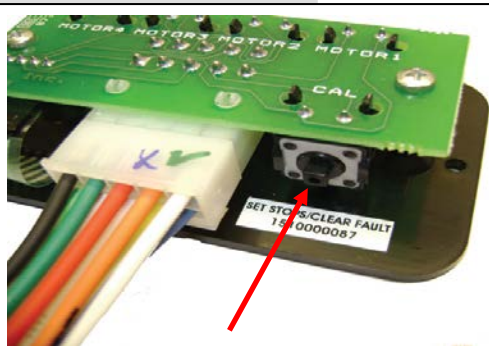
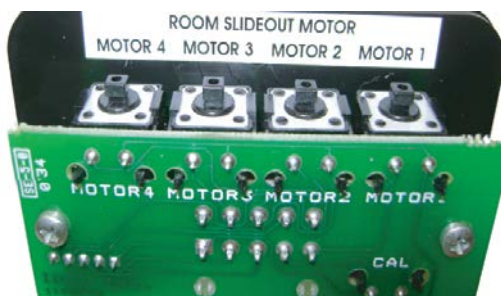
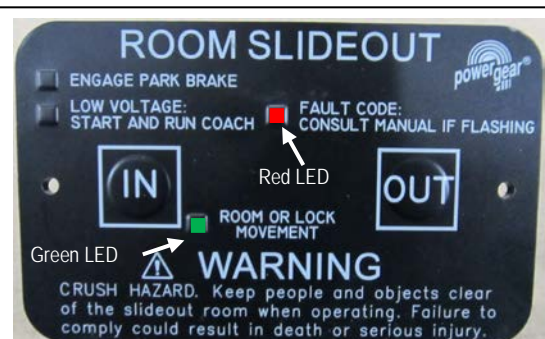

Figure 10 Set Stops/Clear Fault Button
Figure 11 Room Slideout Motor Buttons
Figure 12 Touchpad
2. Determine location to mount **TOUCHPAD** (FIGURE 12, page 4). Location needs to be in view of slideout room and have minimum depth of 1" inside the wall. Cut a 3 1/8" wide by 2" high rectangular opening in the wall paneling to mount the touchpad.
3. Route and attach the touchpad harness (FIGURE 19, page 9) to where the touchpad will be mounted. After system has been programmed (see **PROGRAM MODE**, page 3), mount **TOUCHPAD** (FIGURE 12, page 4) with two (2) screws.
1. If the **TOUCHPAD (FIGURE 12)** is mounted to the wall, remove it to access the buttons (**FIGURES 10 & 11**) on the back side.
2. Press and hold the **SET STOPS/CLEAR FAULT (FIGURE 10)** button on the back of the wall touchpad for five (5) seconds. The **FAULT CODE** and **ROOM MOVEMENT LED's** will light while the button is held down.
- After five (5) seconds, the **GREEN LED** will begin flashing and the **RED LED** will remain lit (**FIGURE 12**).
- a. Press and hold the slideout room motor buttons (**MOTOR 1 and MOTOR 2, FIGURE 11**) on the back of the wall **TOUCHPAD (FIGURE 12)** that correspond to the slideout motors you want to move. These buttons correspond to the slideout room motors.
- c. Move the room to the fully retracted position. Press and release the **SET STOPS/CLEAR FAULT (FIGURE 10)** button on the back of the wall touchpad to program the retracted stop position. The **RED LED** will now start to flash and the **GREEN LED (FIGURE 12)** will remain lit.
- b. Press the **IN** or **OUT** button on the front of the wall **TOUCHPAD (FIGURE 12, page 4)** depending upon direction of rail movement you desire.
- d. Press and release the SET **STOPS/CLEAR FAULT (FIGURE 10, page 4)** button on the back of the wall touchpad to program the extended stop position.
- If both LED's flash rapidly for one (1) second and then shut off, the control has been programmed correctly and is now in normal operation mode.
- If both LED's flash rapidly for 10 seconds, the control has **NOT** been programmed correctly or the system is wired incorrectly. The **TOUCHPAD (FIGURE 12, page 4)** will flash the fault code that occurred during programming. Refer to the **FAULT DIAGNOSTICS/TROUBLESHOOTING** section (**page 6**), repair the fault, and repeat the **PROGRAM MODE** procedure starting with **STEP 1, page 4**.
5. Re-install the wall **TOUCHPAD (FIGURE 12, page 4)**. Programming of the control is now complete.
- The **GREEN LED (FIGURE 12, page 4)** indicates the system operation.
- The **RED LED (FIGURE 12, page 4)** indicates a fault or a problem with the system. Refer to the **FAULT DIAGNOSTICS/TROUBLESHOOTING (page 6)** for additional information.
6. Press and hold the **OUT** button (**FIGURE 12, page 4**). There will be a slight delay before the room will begin to move, this is normal.
5. Press and hold the **IN** button (**FIGURE 12, page 4**). There will be a slight delay before the room will begin to move, this is normal.
- The **FAULT CODE** LED (**FIGURE 12, page 4**) will flash **RED** a number of times corresponding to a specific fault code. Refer to the **TROUBLESHOOTING** chart on **page 7** to best determine what caused the fault.
- The **ROOM MOVEMENT** LED (**FIGURE 12, page 4**) will flash **GREEN** a number of times corresponding to which motor had the associated fault.
- For example: if you are seeing four (4) **RED** flashes and two (2) **GREEN** flashes, it means that there is a motor fault on motor 2.
- **MINOR** faults can be cleared by pushing and releasing the **IN** or **OUT** buttons on the wall touchpad (**FIGURE 12, page 4**).
- After the problem has been repaired, **MAJOR** faults must be cleared by pushing and releasing the **SET STOPS/CLEAR FAULTS** button located the back of the wall touchpad (**FIGURE 10, page 4**).
1. Remove the touchpad (**FIGURE 12, page 4**) from the wall.
2. Prior to clearing the MAJOR fault, record the number of RED and GREEN flashes (**FIGURE 12, Page 4**) observed on the touchpad. This information will help your dealer/service center in troubleshooting the slideout system.
3. Press and hold the **SET STOPS/CLEAR FAULTS** button (**FIGURE 10, page 4**) on the back for the touchpad for five (5) seconds. Both **RED** and **GREEN LED's** will be on solid while this button is pressed. After five (5) seconds, the **GREEN LED** will begin flashing and the **RED LED** will remain lit.
4. The unit is now ready to retract the room. Press and hold the **ROOM SLIDEOUT MOTOR** buttons 1 and 2 on the back of the **TOUCHPAD (FIGURE 10, page 4)**.